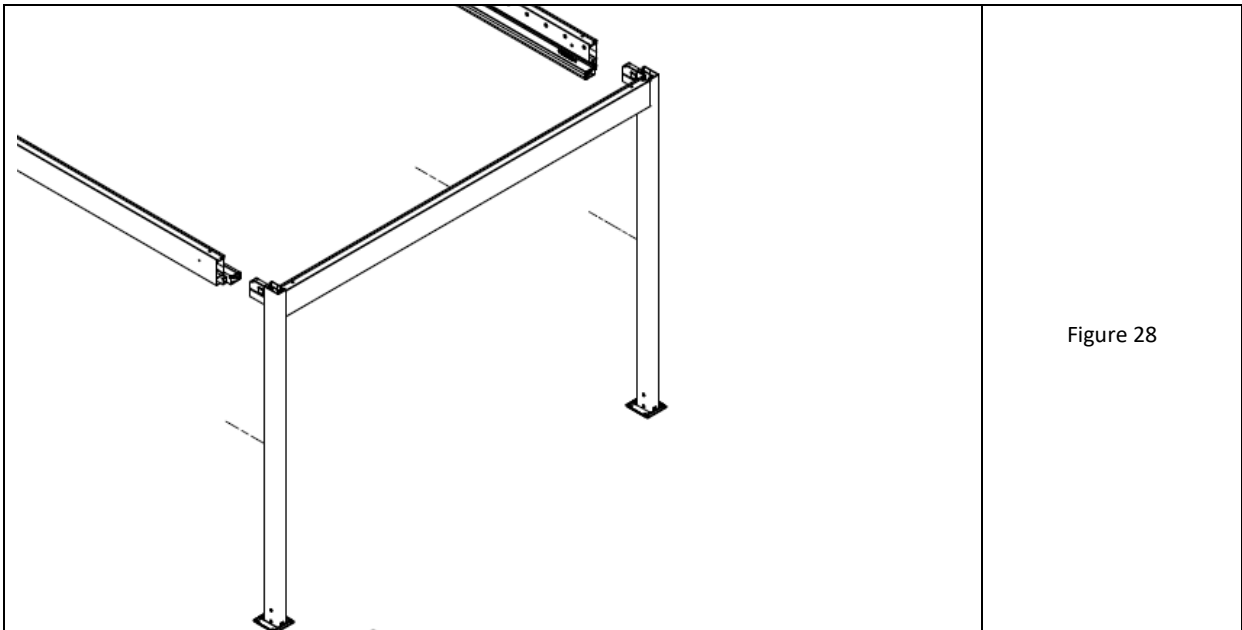

Figure 28
11. Slide the integrated gate with the bones into the chambers at the ends of the supported lengthwise beams (fig. 28). Pay attention to the insertion of the straight outflow pipe from the lengthwise beams into the cut-out window in the post below the bone.